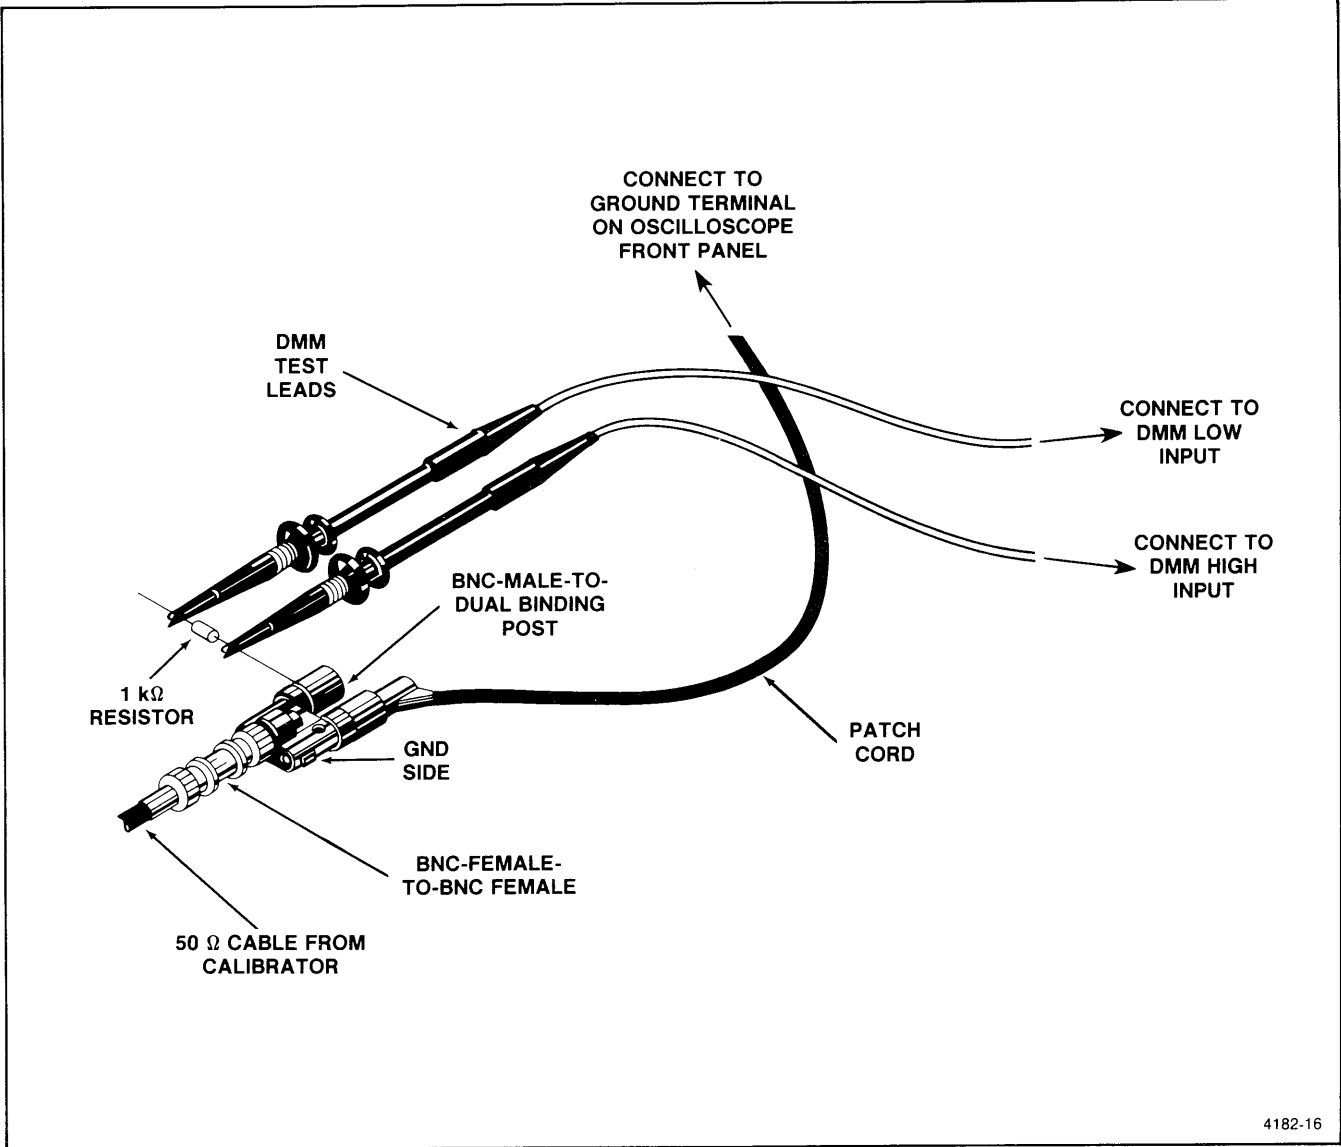

Figure 4-5. Test setup for DMM common mode check.
- f. Connect the test setup as shown in Figure 4-5.